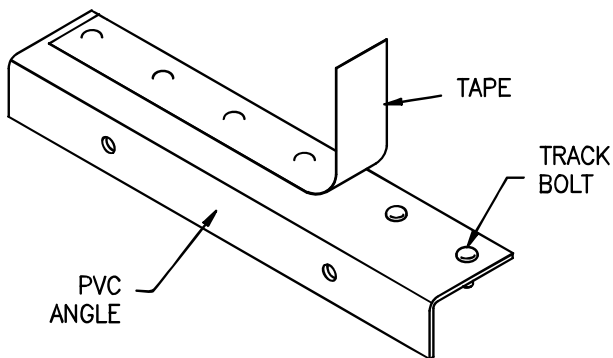

FIG. 2
- b. Tape back side to hold track bolts in place (Fig. 2)